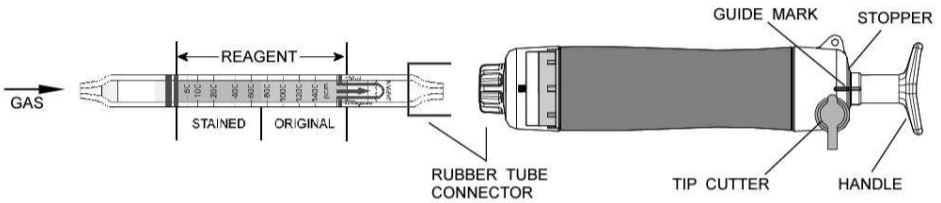

Fig.1
- ② Insert the detector tube into the aspirating pump securely as shown in Fig.1. (Arrow mark shall point to the pump.)
- ③ Align the guide marks on the handle and stopper of the aspirating pump.
- ④ Pull the pump handle at a full stroke until it locks and wait for 1.5 minutes or until the completion of sampling is confirmed with the flow indicator of the pump (See descriptions about the flow indicator in the instruction manual of the pump).
- ⑤ On completion of sampling, read the scale at the maximum point of the stained layer.
- ⑥ Determine the concentration of Isobutane, Pentane, n-Hexane, Heptane, Octane and Cyclohexane with the following equation.